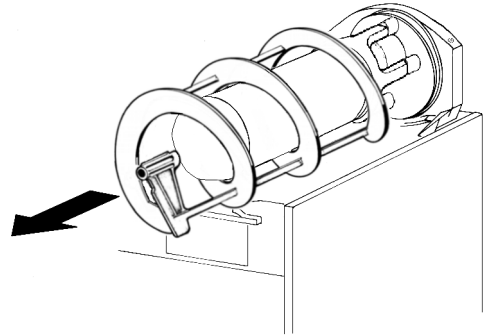

figure 7
- 3 - Slide the outer spiral out (see figure 7) and then the inside